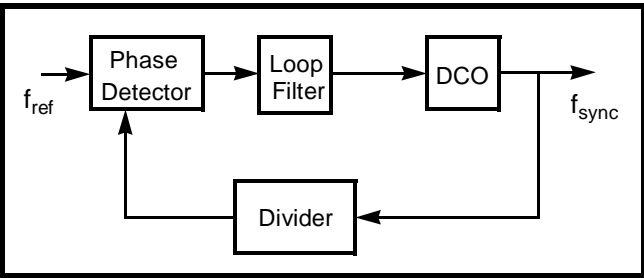

Figure 3 - PLL Block Diagram
As shown in Figure 3, the PLL of the MT9042 consists of a phase detector (PD), a loop filter, a high resolution DCO, and a digital frequency divider. The digitally controlled oscillator (DCO) is locked in frequency ($n \times f_{ref}$) to one of three possible reference frequencies, configured using pins FSEL1 and FSEL2. Combined with the reference select input RSEL, the PLL is capable of providing a full range of E1/T1 clock signals synchronized to either the primary PRI or secondary SEC input. The loop filter is a first order lowpass structure that provides approximately a 2 Hz bandwidth.